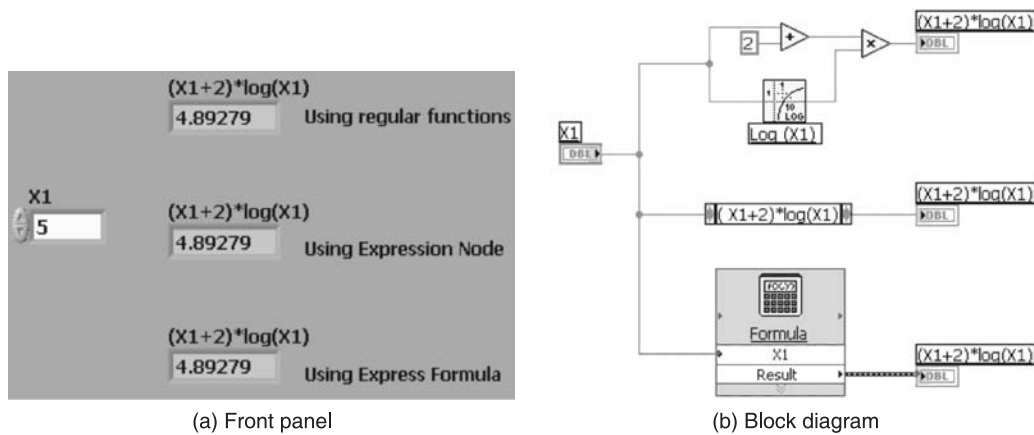

Figure P2.6
**Solution** The front panel and block diagram for solving an equation using three different ways are shown in Figures P2.6(a) and P2.6(b).